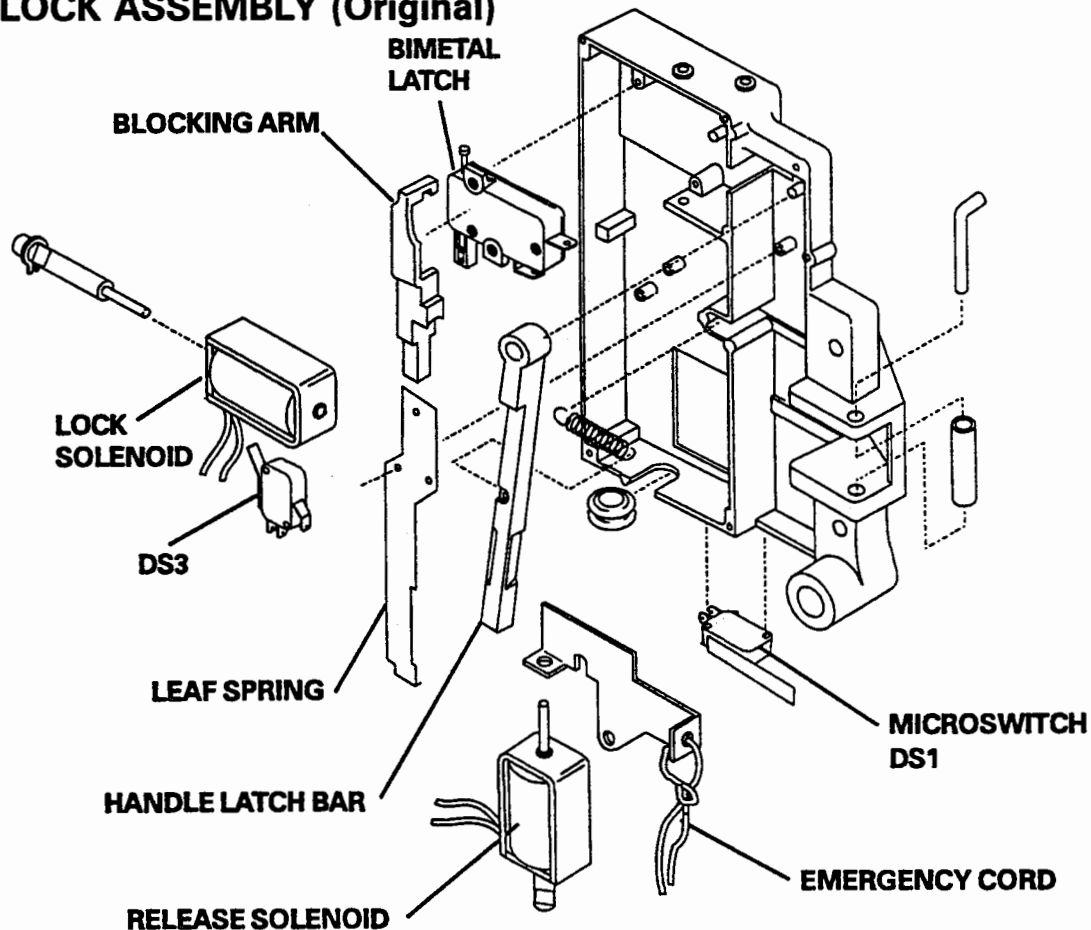

Figure 2-11
**(See Figure 2-11 & 2-12)**
Unlike the timer based models in which the bi-metal door lock latch is powered from a separate wire than the door lock solenoid, the door lock solenoid coil and the bi-metal latch are wired in parallel. (See Figure 2-11) In order to test the function of the bi-metal latch, the microprocessor (and the program) allows one and a half minutes from the start of the cycle for the bi-metal to heat. It then drops relay RL-18 out of the circuit for about 15 seconds.